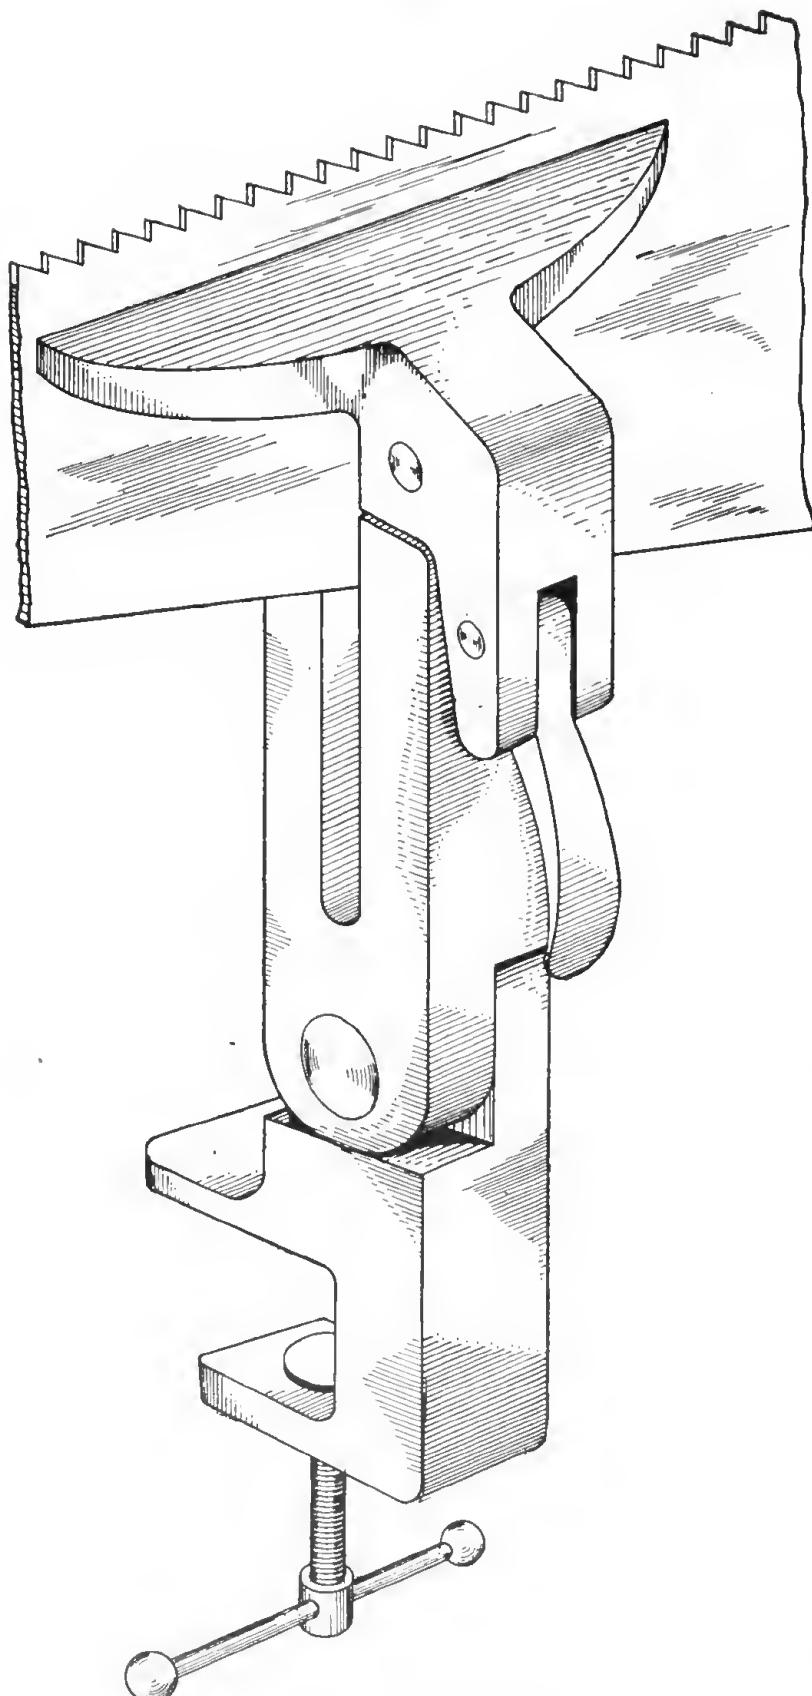
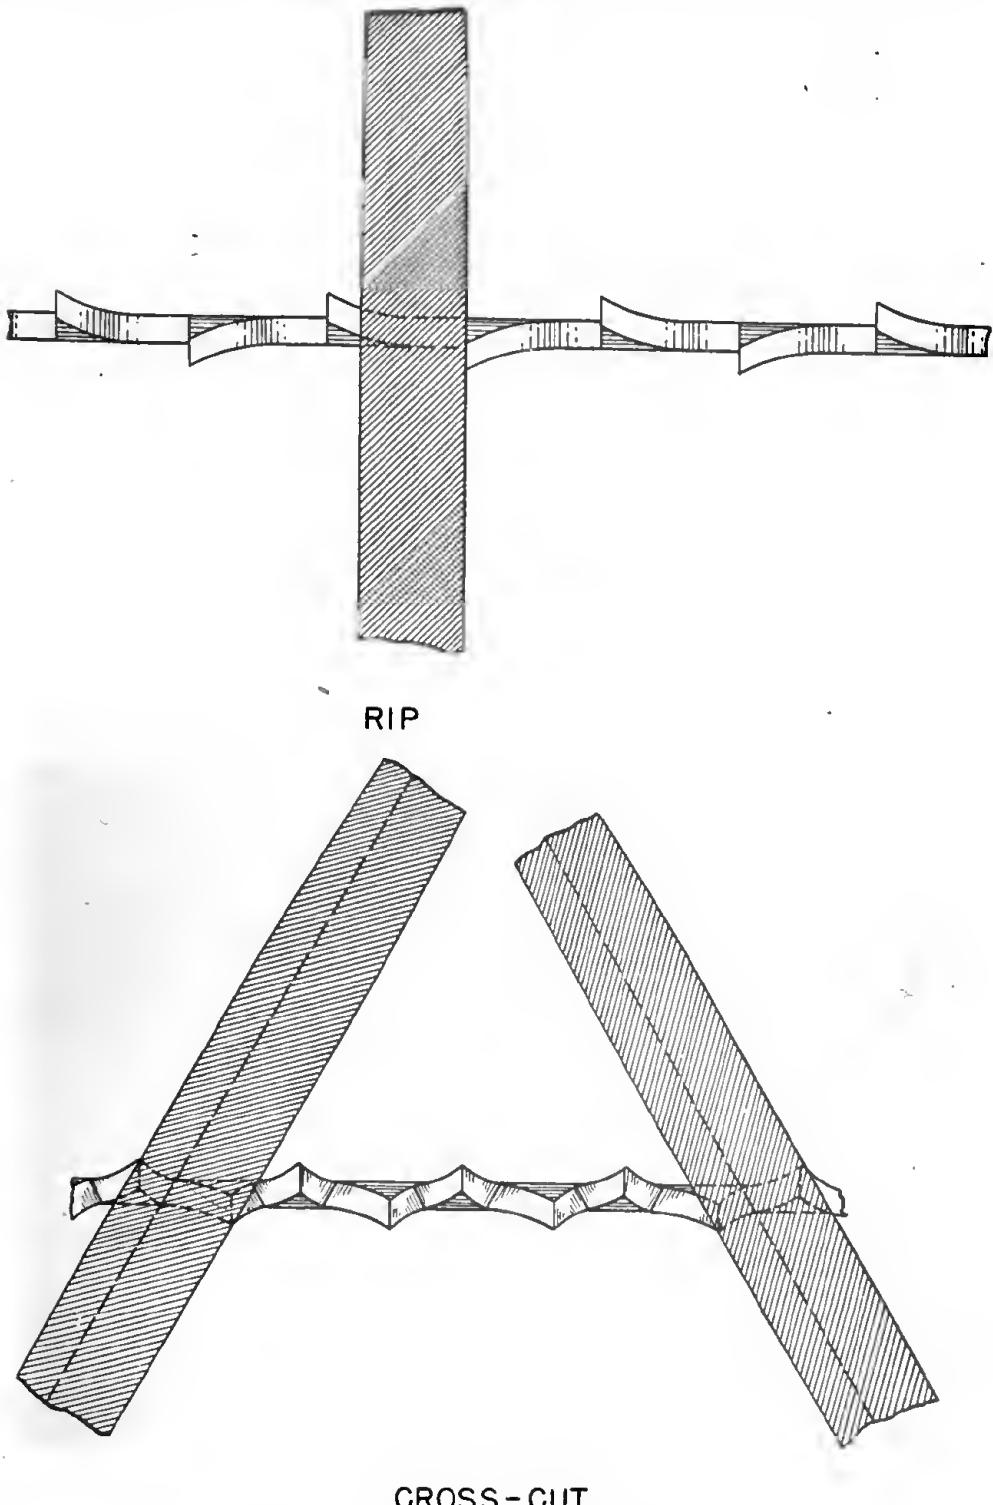

Figure 94. Saw vise.
Figure 95. Position of file when filing a saw.
(5) To work properly a saw must be sharp. To sharpen a saw it should be held in a saw vise. If a saw vise is not available, a bench vise may be used, but a scrap of some soft metal should be placed on each side of the saw to protect it from the jaws of the vise. The teeth of the saw should be as near the edge of the vise as possible to prevent the blade from vibrating while being filed. (See fig. 94.) If necessary, the saw should be "jointed" before being filed. This consists of filing the points of the teeth until they are all even. With the saw held securely, the teeth of the saw are filed with a saw file. Each tooth should be filed the same amount so that the top of the teeth will all be in line when the filing is completed. Ripsaws are filed straight across. Crosscut saws are filed at an angle. The file should always be held level. (See fig. 95.)